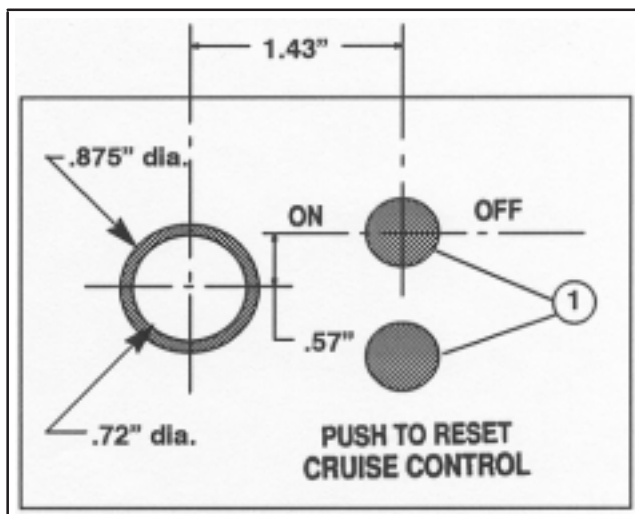
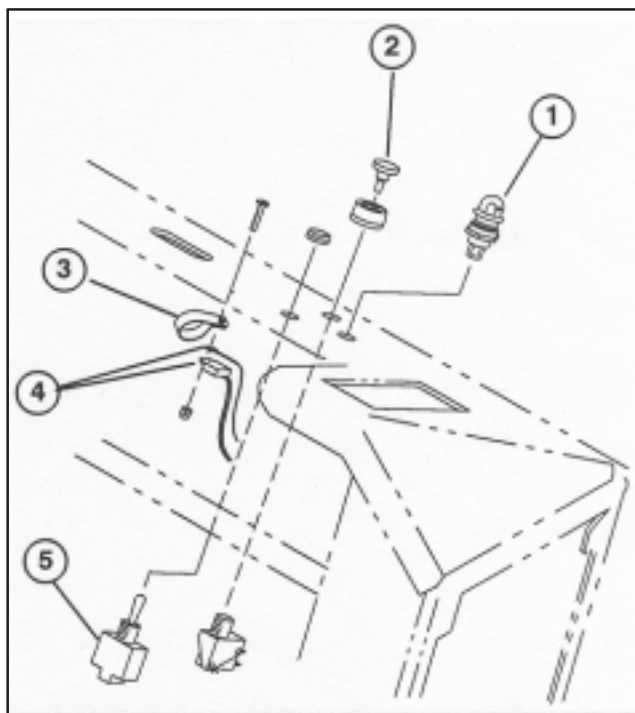

Figure 6
Figure 7
14. Using a hole saw and dimensions shown in figure 6, locate, mark and drill a .875" dia. hole thru plastic console panel only.
16. Install warning light into hole and secure with nut (Fig. 6 & 7).
18. Remove (2) knock-out plugs from console panel (Fig. 6).
19. Loosen (2) terminal screws on ON/OFF switch body. Secure the (2) red spade terminal wires to switch terminals.
20. Install ON/OFF toggle switch into top hole of console panel and secure with nut (Fig. 7).
22. Install Push Button switch into bottom hole of console panel and secure with bezel (Fig. 7). Insert push button into Bezel.
24. Remount R—clamp, green ring terminal wire and multiple wire connector from harness to console with a M4 x .78 lg. pan head screw and nut (Fig. 7). Ring terminal must be positioned between R—clamp and smooth side of wire connector.